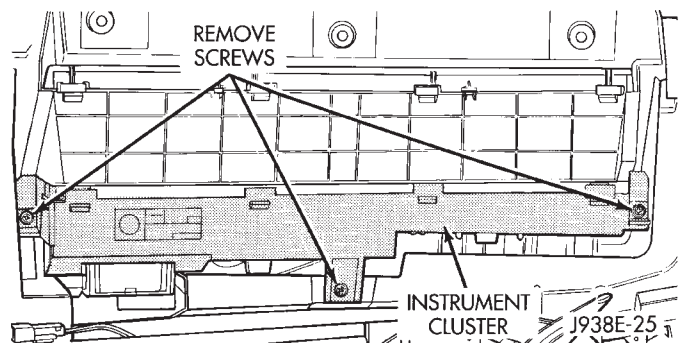

Fig. 4 Instrument Cluster Attaching Screws
- (12) Remove 3 screws from the top of the cluster (Fig. 4).
- (13) Lift cluster straight up far enough to allow access to connector. Unplug connector and remove cluster.